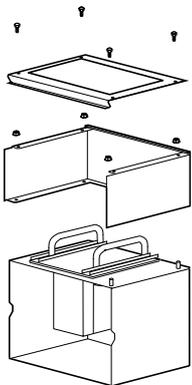
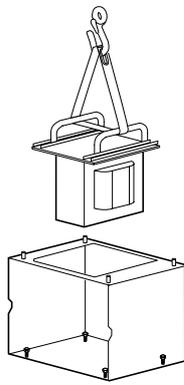

Figure 2
Figure 3
- 1 Dissassemble the components of the DC choke (figure 2) for installation later, and remove the choke by means of a hoist (figure 3).
- 2 Remove the fixing screws (figure 3) from the choke support on the pallet.